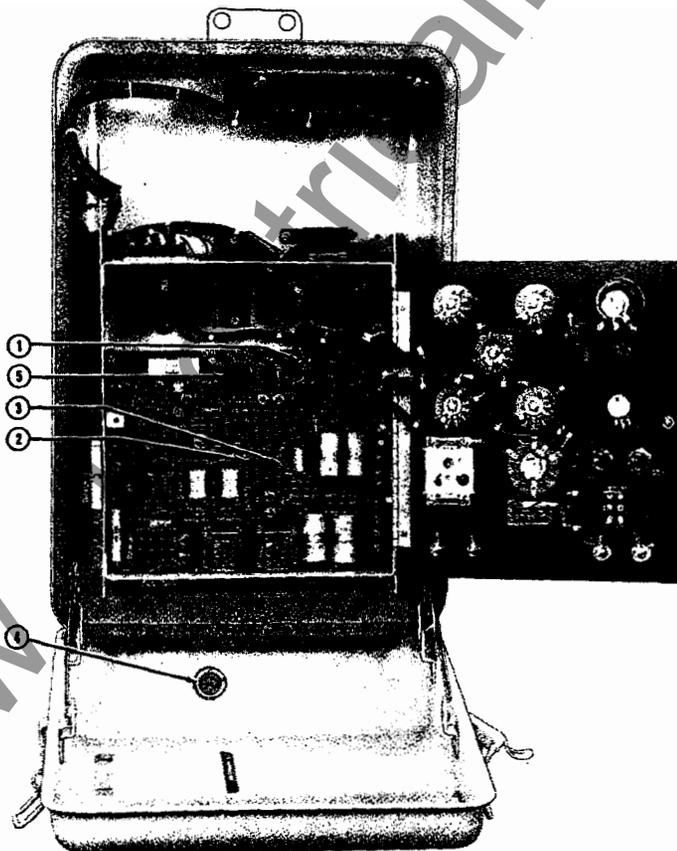

Fig. 16 Calibrating test points and calibration rheostat.
*Accu/Stat* controls are shipped from the factory set for a time delay of 45 seconds. To change the time delay setting, loosen the thumb screw on the left hand side of the panel face and open the face plate. A calibrated time delay selection knob is on the top of the printed circuit board. See (Figure 16). Standard type *Accu/Stat* controls allow continuous time delay settings of 15 thru 120 seconds.